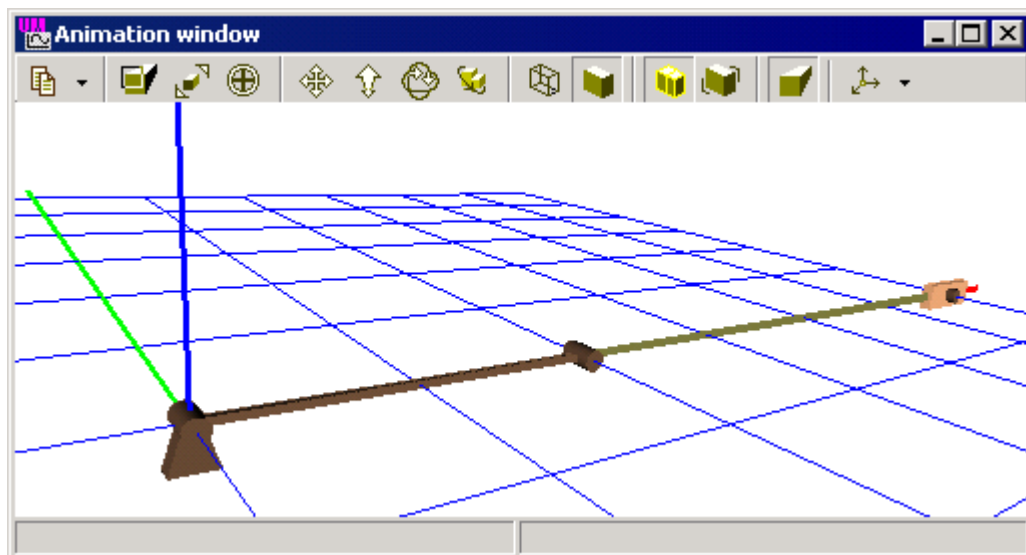

Figure 2.25.
5. Make sure that the **Autocalculation of constraint equations** mode is turned on (the  button should be pressed), otherwise press this button. Then calculate the initial conditions by clicking the  button. Animation window shows the current position of the mechanism, Fig. 2.25.